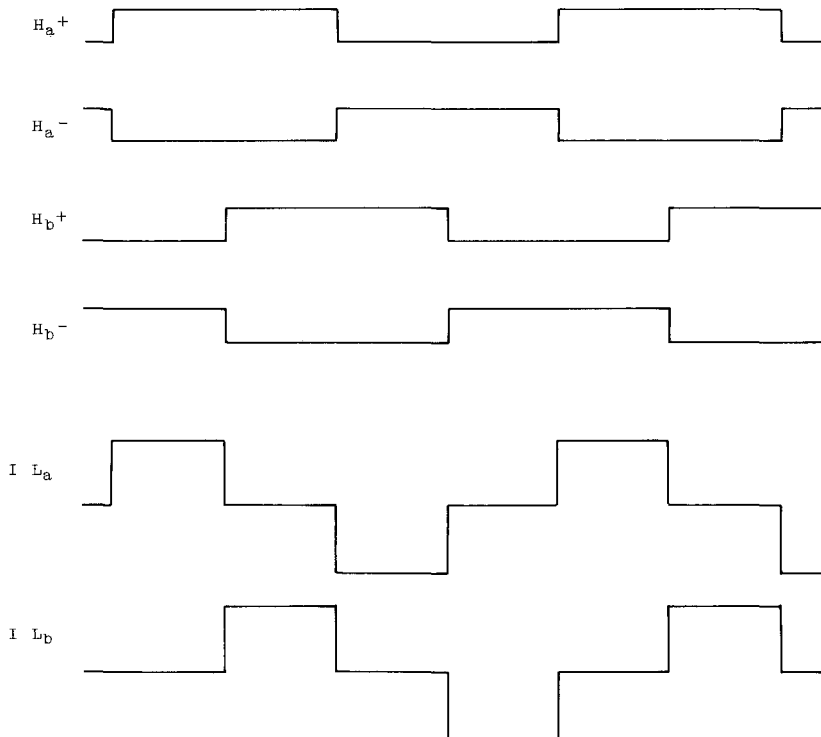

Fig. 9 TIMING CHART OF OUTPUT
2 Phase Bi-directional ($\pi/2$ duty) Output Circuit is constituted by 8 Power Transistors basically that is controlled by control signals from position sensing circuit (switching signal) and Servo Amplifier Output. (rotation speed control signal). Current flow of R_f (equal to Output Coil Current), connect to PIN ⑤, cause a voltage drop $V_{Rf}(=I_O \cdot R_f)$. V_{Rf} is feed backed to Servo Amplifier. Therefore, Input to Output Characteristics of Output Circuit becomes proportional (shown in Fig. 9). But, because of build in Current Limiting Circuit, V_{Rf} value is limited internally less then approximately 0.6V. therefore, Output Current is limited less then $0.6/R_f$.